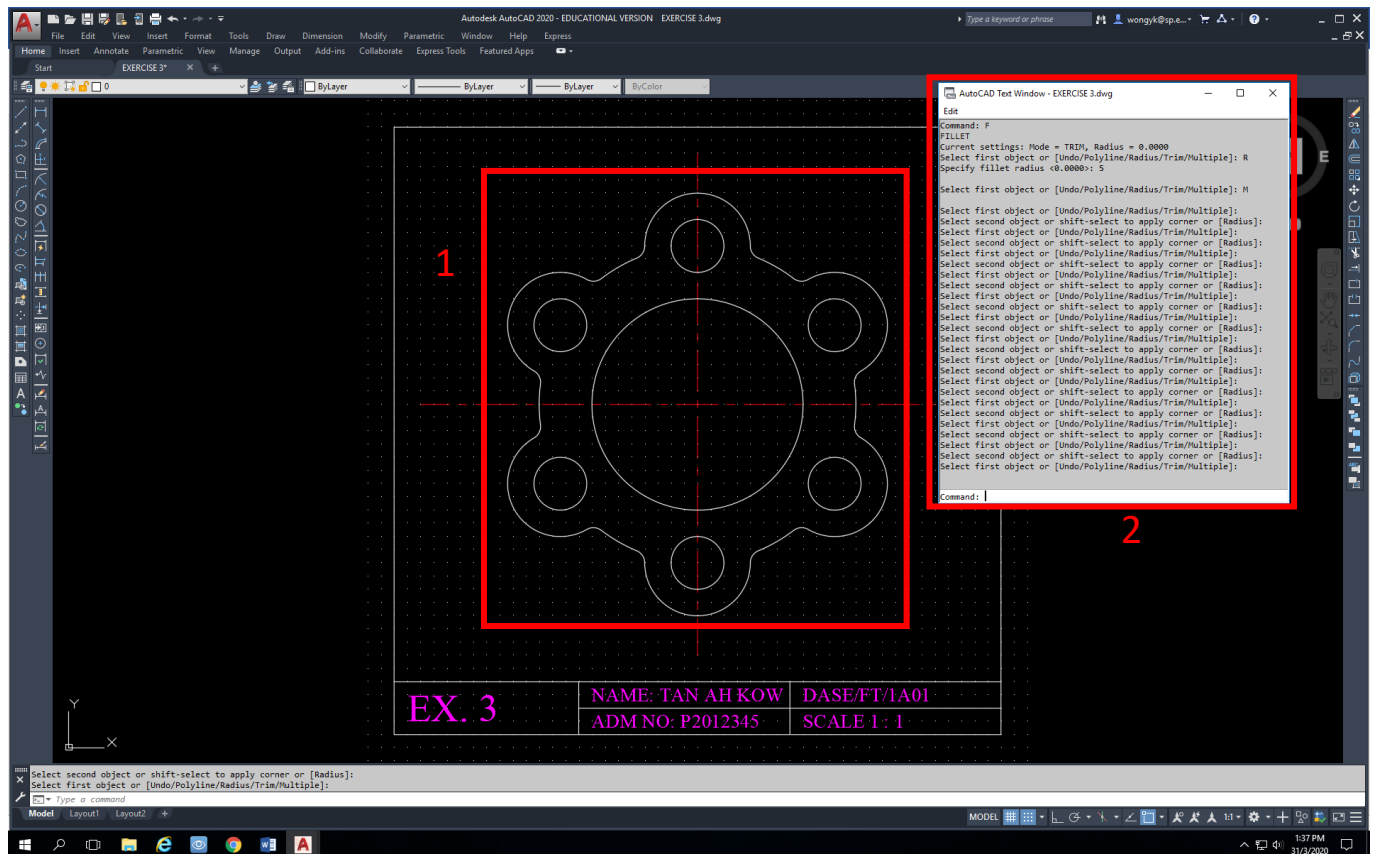

Fig 32
- xxx. Fig 32 shows the final object drawn **(1)** and the steps for multiple fillets **(2)**.